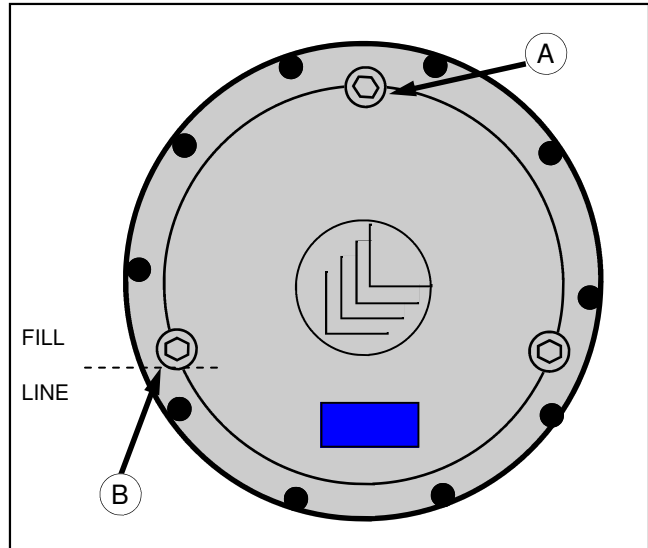

FIG 86-1
**OIL LEVEL**– Each wheel hub should maintain a proper oil level at all times. Less than that would limit lubrication and over full would cause overheating and damage. To check the oil level, position the hub so one of the face plugs is positioned at 12 O'clock (fig. 86-1, item A). The other plug will be either at 8 O'clock (fig. 86-1, item B). (When positioned correctly the arrows in the center of the hub should make an "L".) Remove the lower plug; if no oil comes out, the oil level is too low.
To change the wheel hub oil, position the plugs so that one is at the 6 O'clock position, and the other is between the 2 and 3 O'clock positions. Remove the bottom plug to drain the oil. Once all of the oil is drained, rotate the hub so that the plugs are in the filling position (fig. 86-1). Refill wheel hub with gear oil as described above.